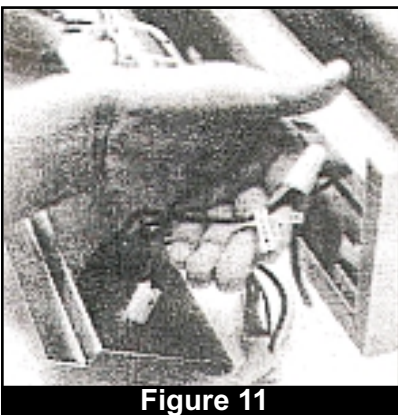

Figure 11
2. Mark all the wires connected to the power indicator lamp module with a color code or number to make proper re-connection easy (Fig. 11)
2. Mark all the wires connected to the thermostat indicator lamp module and thermostat with a color code or number to make proper re-connection easy. (Fig. 11)